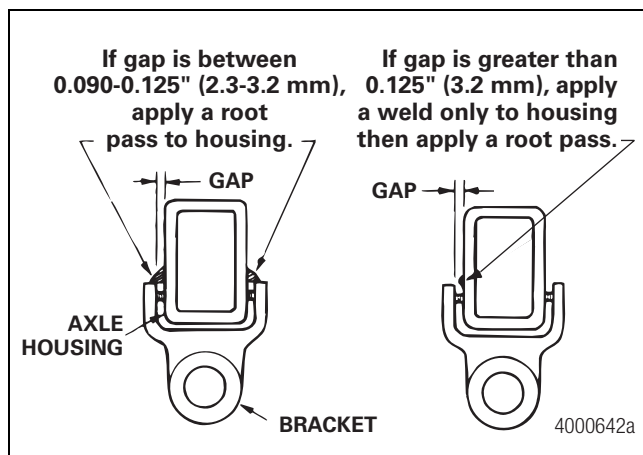

Figure 3.23
5. If the clearance between the bracket and the axle housing is between 0.090-0.125-inch (2.3-3.2 mm), you must make a root pass to close the clearance and provide an adequate throat dimension. Figure 3.23.
6. If the clearance between the bracket and the axle housing is greater than 0.125-inch (3.2 mm), apply a weld to the axle housing. Figure 3.23. Then make a root pass.